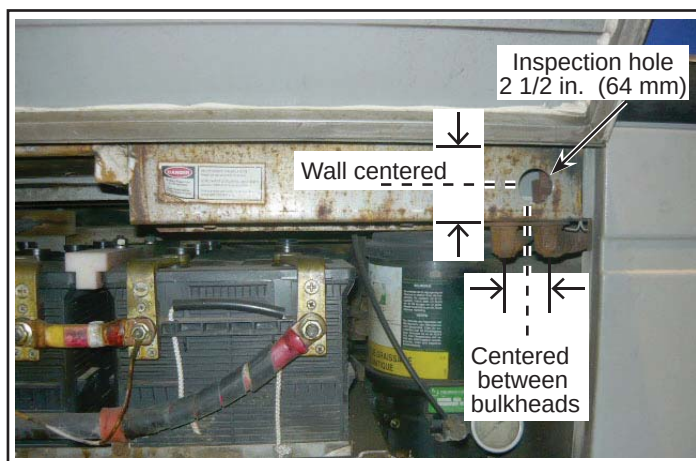

Figure 2 - Location of the Inspection Hole to Drill in the Wall
- 1.2. With a hole saw, drill a 2 1/2 in (64 mm) inspection hole in the wall, horizontally centered between the two hydraulic bulkheads and vertically centered on the wall surface. See Figure 2.